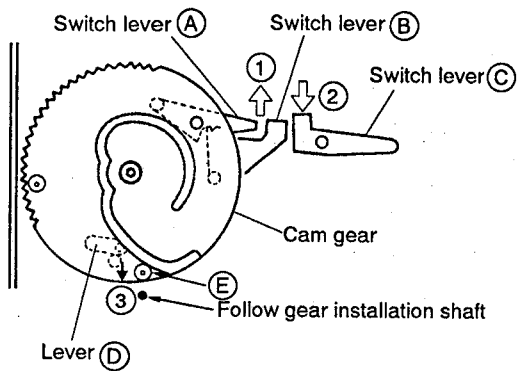

Fig. 11
② Move switch levers (A) and (B) (Fig.11) in the direction of arrow ① (SW is ON), switch lever (C) in the direction of arrow ② and lever (D) in the direction of arrow ③.
② Install the cam gear when the cam gear comes to the position as shown in Fig. 11.